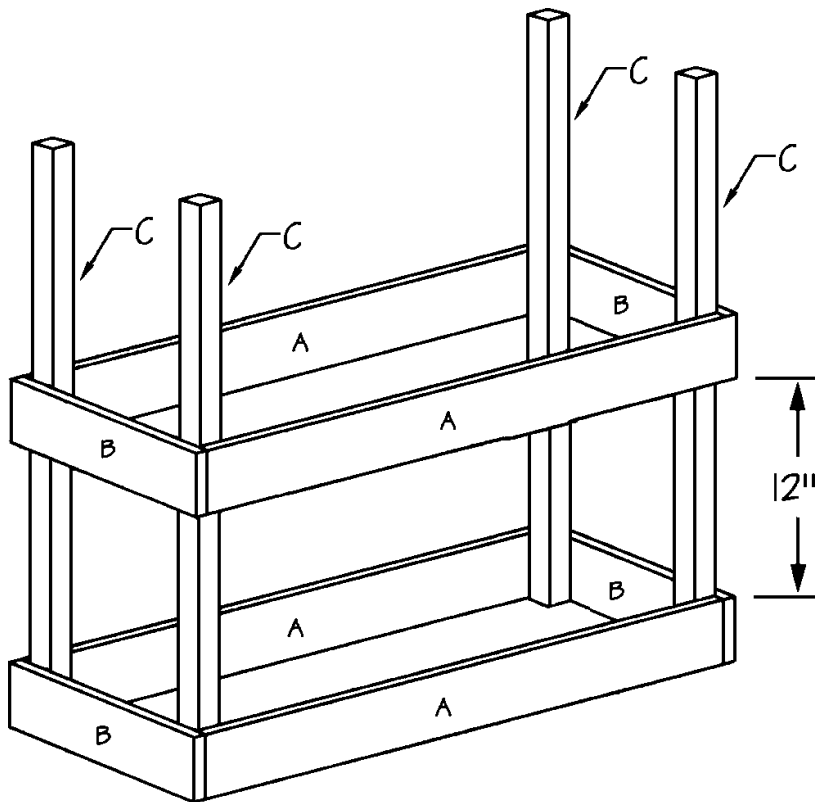

Figure 3
7. Place the assembled rectangle designated “Bottom” over the four Legs (C), 12 inches below the Top” rectangle, as shown in Figure 3. Again, Apply glue to the meeting surfaces, and